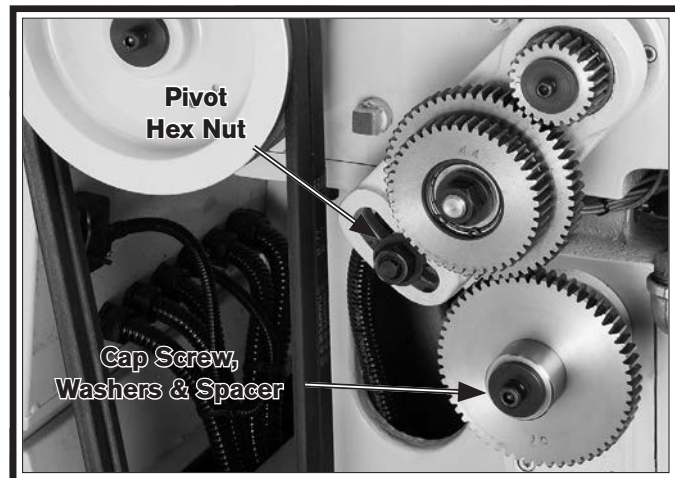

Figure 72. End gear components.
3. Remove the cap screw, lock washer, and flat washer from the 57T end gear (see **Figure 72**).
4. Loosen the pivot hex nut shown in **Figure 72**, then swing the pivot arm to the left so that 44T/56T gears are away from the 57T gear. Hand tighten the hex nut to keep the arm in place.